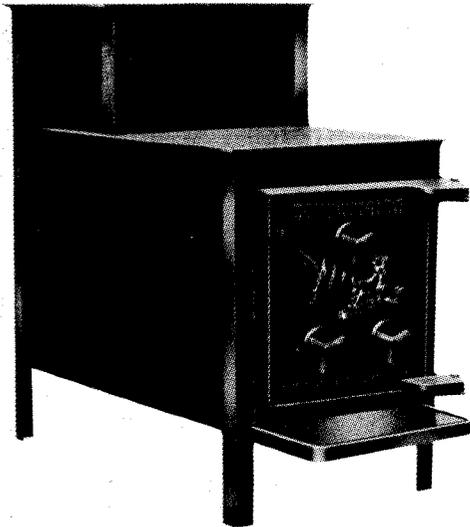

Fig. 57. Huntsman Model 241 step stove.
2. **Atlanta Stove Works, Inc.** (manufacturer), P.O. Box 5254 Atlanta GA 30307. In the Huntsman Model 241 (Fig. 57 and Table 6), smoke and gases go around the firebox top into an upper heat chamber, then into a 12-inch interior flue. Marketed as "The Ponderosa" by sister company, Birmingham Stove and Range Co.